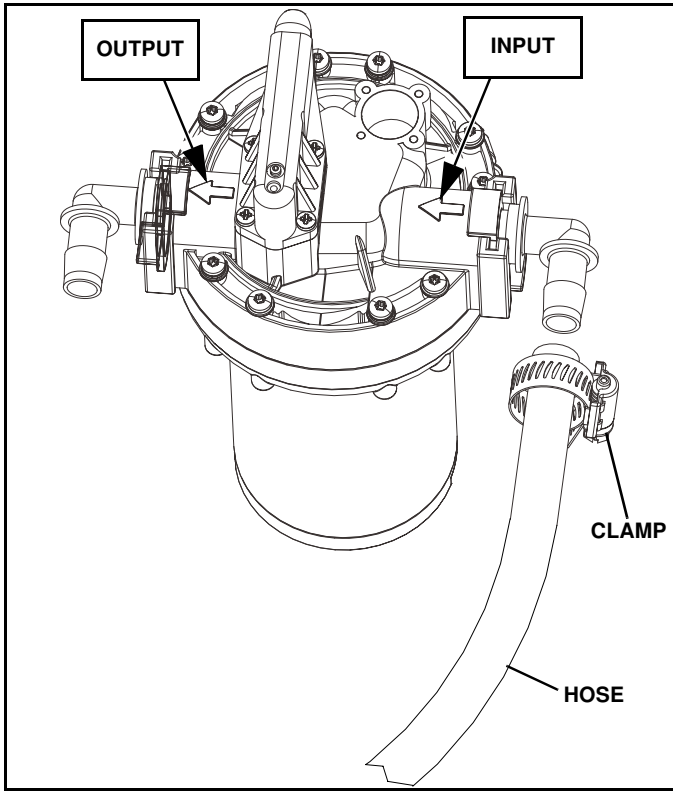

Figure 1-3
4. Push one end of the hose that was cut from step 1 onto the elbow fitting on the input side of the pump. Then fasten with a hose clamp. (See Figure 1-3)